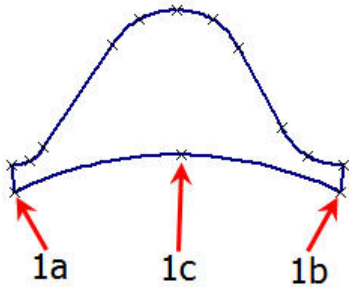

Figure 10. Draw hemline curve
- 13.** Choose Arc (AR) and SNAP to point 1a and SNAP to point 1b (Fig. 10).
**15.** CLICK to place point 1c (Fig. 10).